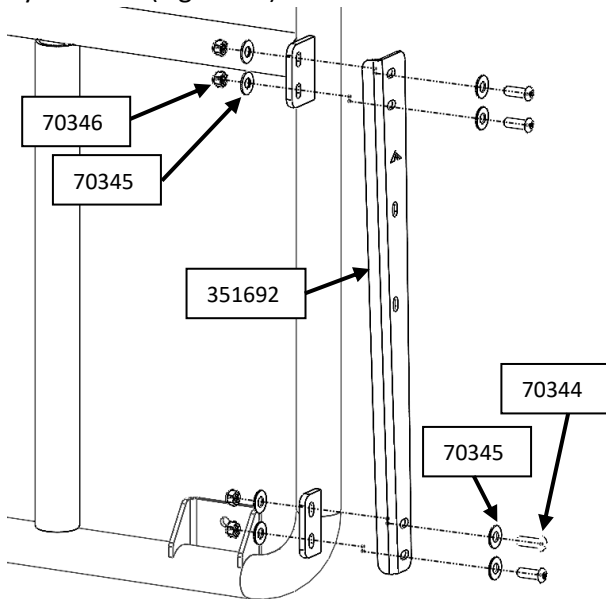

Figure 32: Adapter Bracket Installation
26. Install adapter bracket (351692) to base unit using 5/16"-18 x 1" hardware, washers, and nylock nuts (Figure 32).